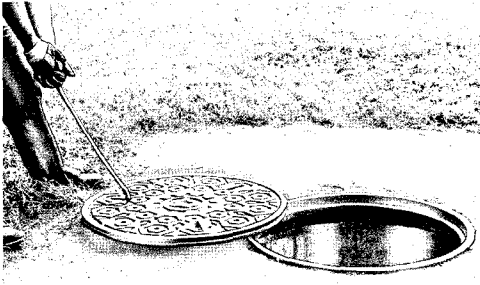

Fig. 15—Sliding G or H Cover Clear of Frame
- (4) Slide the cover clear of the frame (Fig. 15).